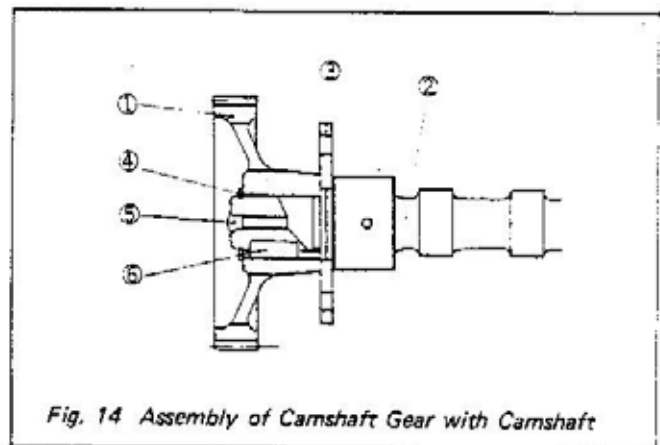

Fig. 14 Assembly of Camshaft Gear with Camshaft
3. To assemble camshaft gear, refer to Fig. 14, place stopper (3) on camshaft (2) first. Next, insert key, lubricate, and insert camshaft gear (1). Lastly, insert the cir clip.